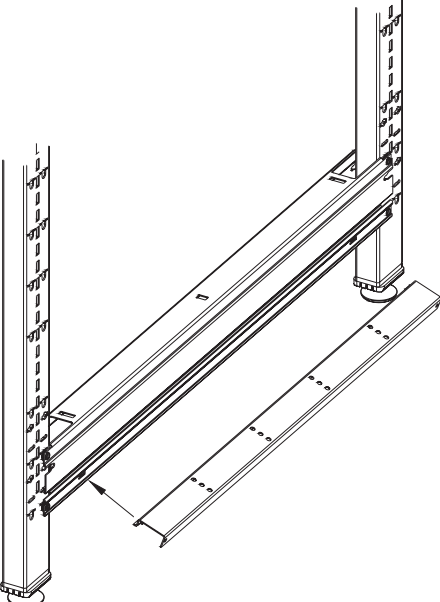

Figure1
- B. To install the mounting channel to the panel, position the channel with the open end in the same direction as the open end of the horizontal it is being mounted to (see Figure 1).
- C. Place the tabs on the channel into the corresponding slots on the horizontal channel and pivot the channel into place (see Figure 1).